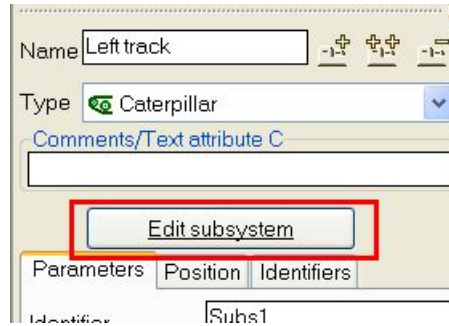

Fig. 20 Button for editing the subsystem
- 1) Use the **Edit subsystem** button to open a window with description of the track, Fig. 20.